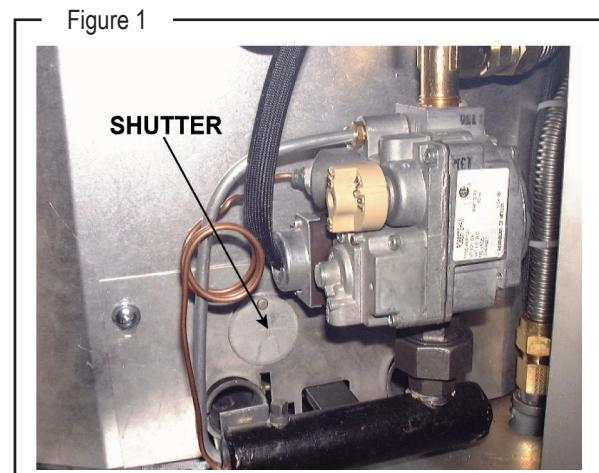

Figure 1
4. Lift the shutter (see Fig. 1) on the heat shield to gain access to the pilot burner, which is located on the right side of the left burner, approximately 6 inches into the combustion chamber.